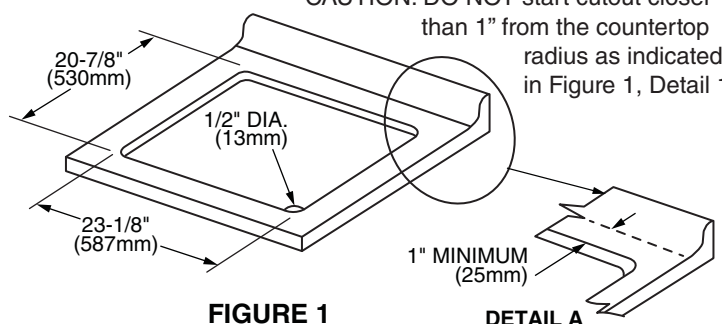

FIGURE 1
This sink is designed to fit into a 23-1/8" x 20-7/8" countertop cutout. Determine the desired location of your sink and lay out the cutout dimensions as shown in Figure 1. Drill four (4) 1/2" diameter holes at each corner of the cutout and make a saw cut on the inside of the layout line. Test fit sink into opening.
CAUTION: DO NOT start cutout closer than 1" from the countertop radius as indicated in Figure 1, Detail A.